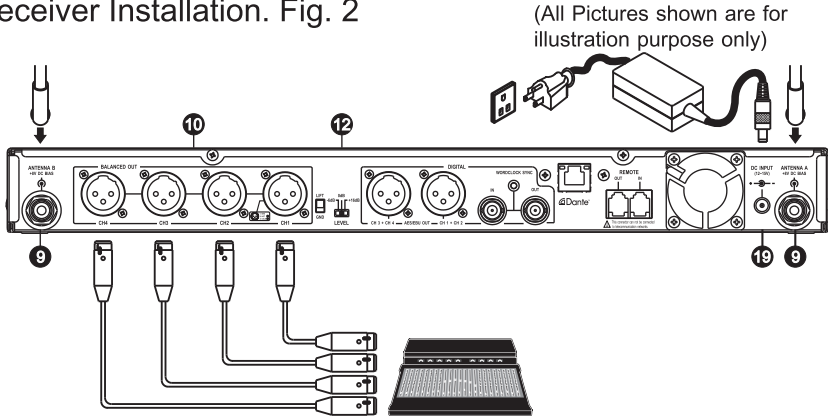

Fig. 2
II. Receiver Installation. Fig. 2
- (A) Each channel signal output can be connected to the mixer or amplifier's MIC IN jack by using a cable with balanced XLR connector. Fig. 2